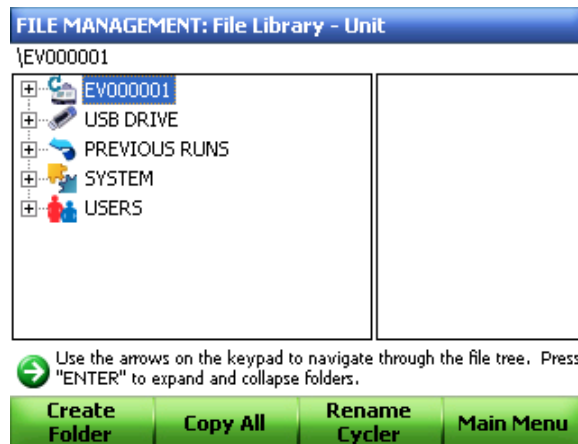

Figure 19. Click Rename Cycler to rename the instrument.
1. Select **Files** to open the file library and select **Rename Cycler** (Figure 19).